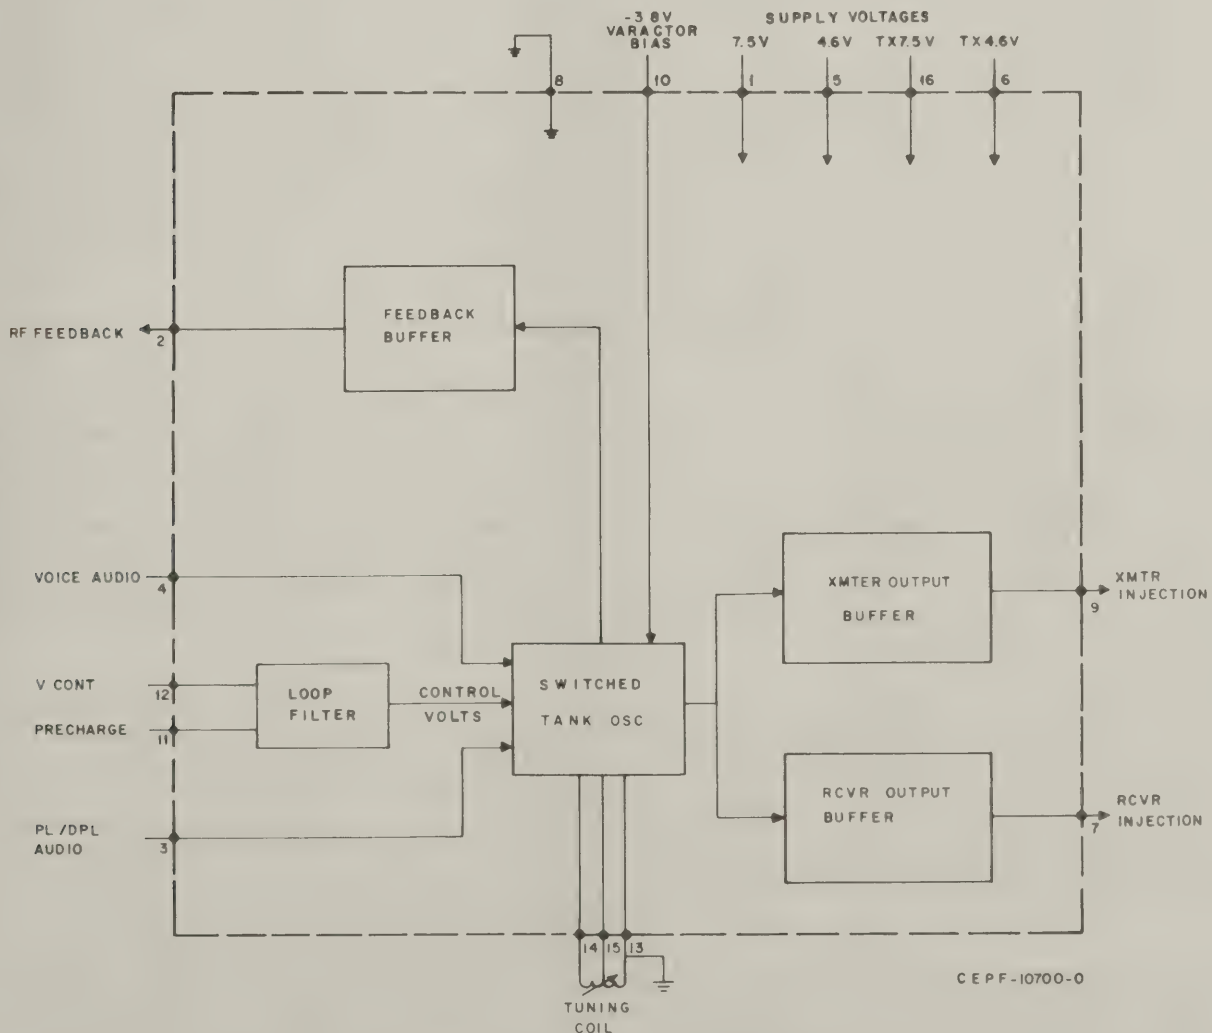

Figure 4. U14; Vhf Synthesizer VCO
a. Vhf Radios (Refer to Figure 4.)